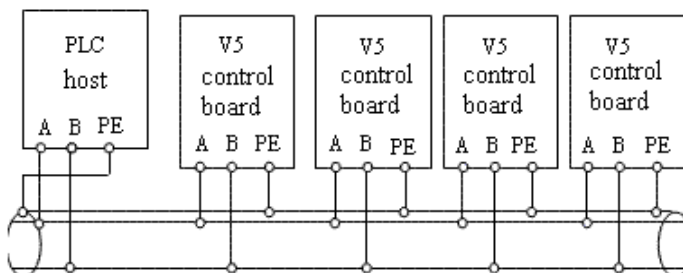
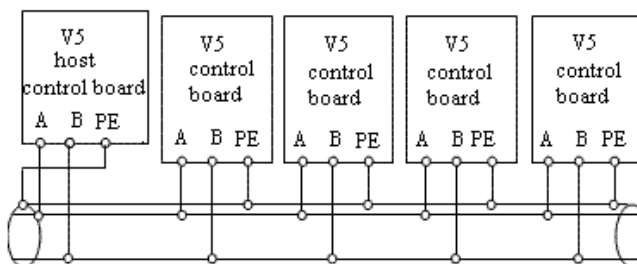

Fig. 2-10 Connection of PLC and inverters
Fig. 2-11 Connection of several inverters
- Many inverters can be connected together through RS485, the PLC(or PC) is the host device, as shown in Fig.2-10; Also, you can select one inveter as host and the other inverters are slaves, as shown in Fig.2-11. The more inverters are connected, the communication system will be interfered seriously, the following wiring is recommended.